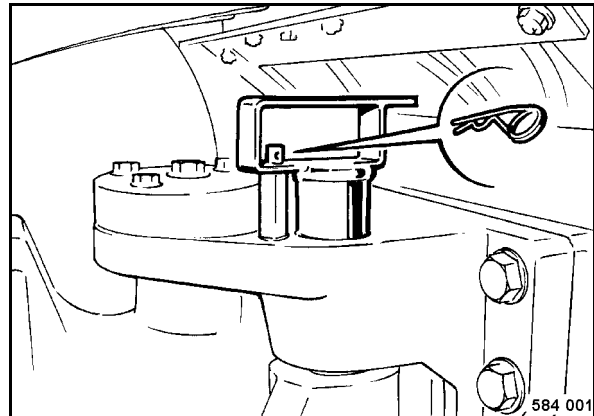

Fig. 115
- Pull the spring pin (Fig. 115) out.